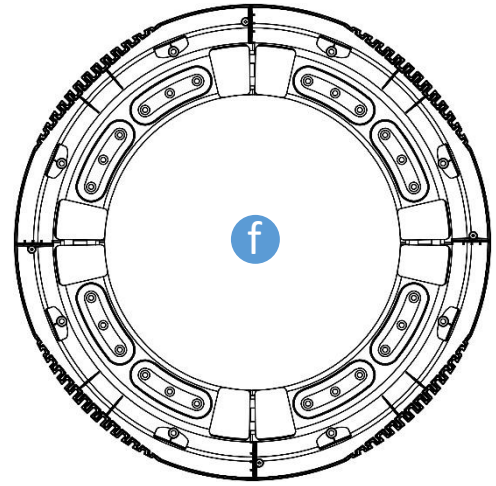

Figure 8
- ④ As shown in figure 8, after assembling, place “the pallet” face up, put it on the working desktop, and put the “Main Engine” into it, as shown in figure 2.